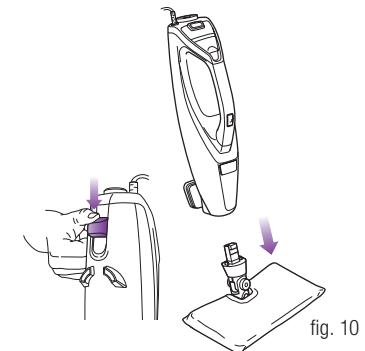

fig. 10
**2** To remove the Mop Head, press down on the Engage Scrubber/Release Head Button and lift the Mop Body off the Mop Head (**fig. 10**).